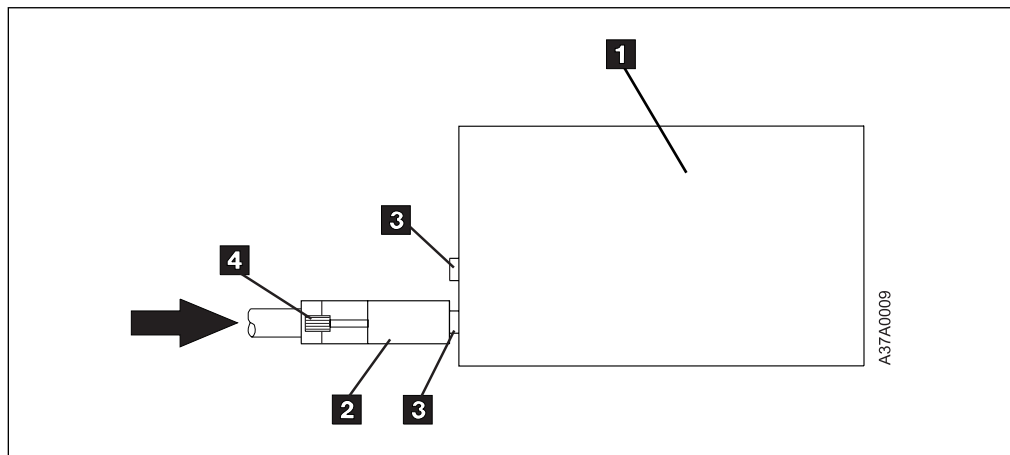

Figure 4. Connecting the SCSI Bus Cable to the 7207-122 Tape Drive. The view is from the side.
- ___ 2. On the rear of the 7207-122 Tape Drive (**1** in Figure 4), attach the device connector end of the SCSI bus cable **2** to one of the SCSI connectors **3**.